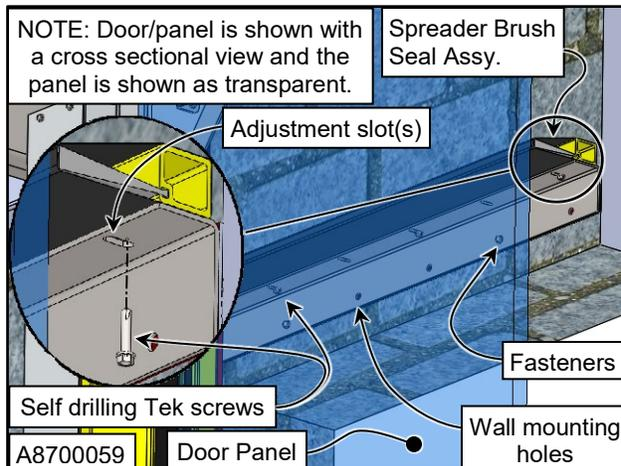

Figure 15
1. Mount and secure the Top Rear Spreader Brush Seal in between the side columns as shown. Adjust to provide a proper door seal. Use alternating fastener holes. (See Figure 15)